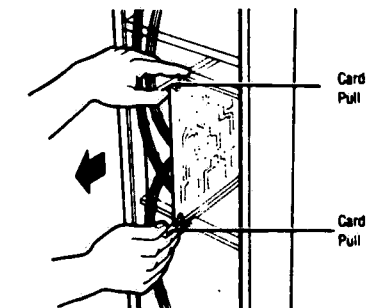

Figure 7-17. REMOVING A PRINTED CIRCUIT CARD.
6. Before handling or replacing Printed Circuit Boards, review Paragraph 7.23. The Printed Circuit Boards in the controller are removed by lifting the card pulls to disengage the contacts from the socket, and pulling the card straight out. See Figure 7-17. Use both card pulls simultaneously to ensure starting the card straight. This prevents damage to the socket contacts. The controller itself is held in position by a single screw, located at the top. Unplug the two cables from controller, remove screw, and slide controller forward on its rails. For removal of Indicator-Recorder-Controller, refer to paragraph 7.2.